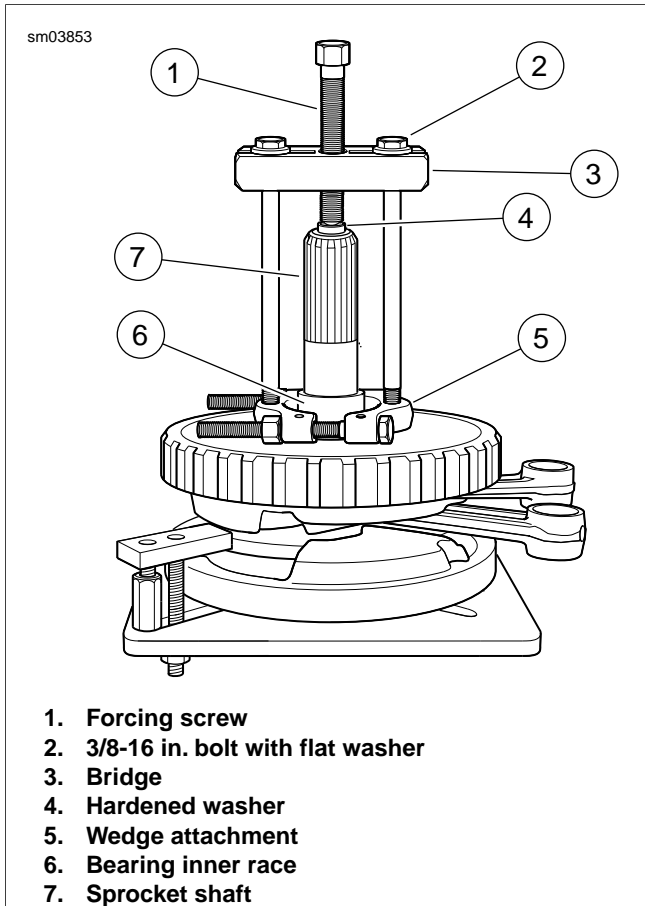

Figure 3-133. Remove Inner Race from Sprocket Shaft
13. See Figure 3-133. Verify that the tool assembly is square, so that the bearing inner race is not cocked during removal.